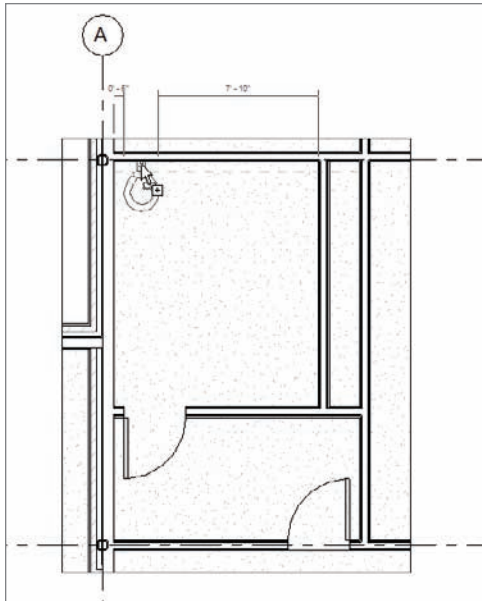

FIGURE 9.39 Placing the 19" Seat Height toilet 6" from the west wall, along the north wall
8. Place it along the north wall approximately 6" from the west wall, as shown in Figure 9.39.